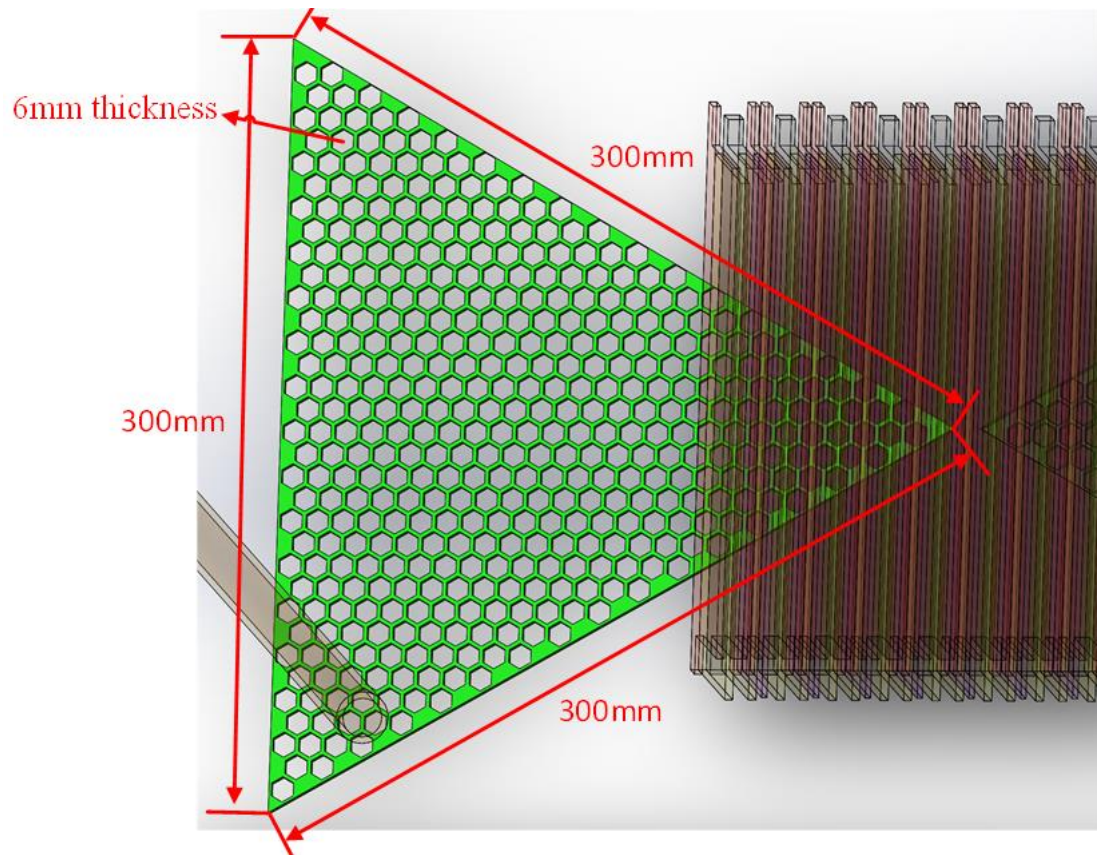
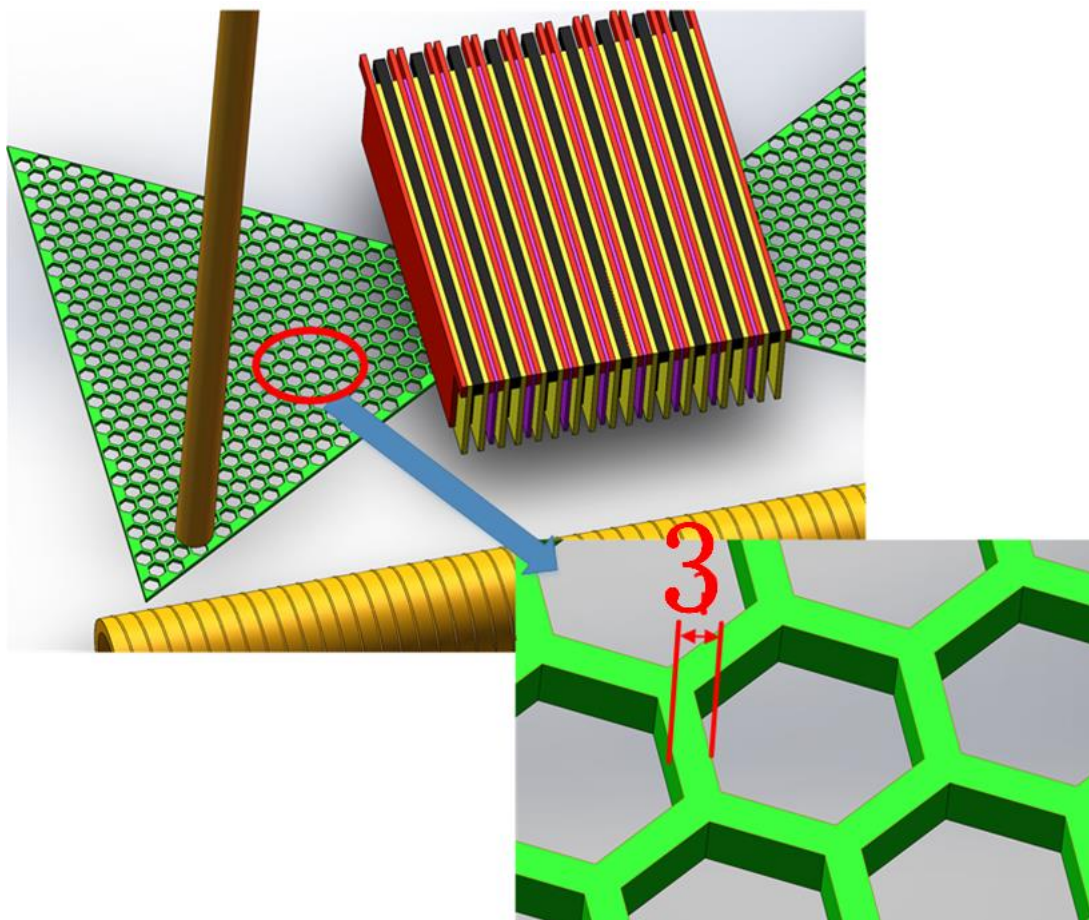

Figure 8 Aluminum triangles
Figure 9 Details of aluminum triangles
(5) Aluminum triangles, 300mm x 300mm x 300mm, 6mm thickness, see Figure 8 and Figure 9